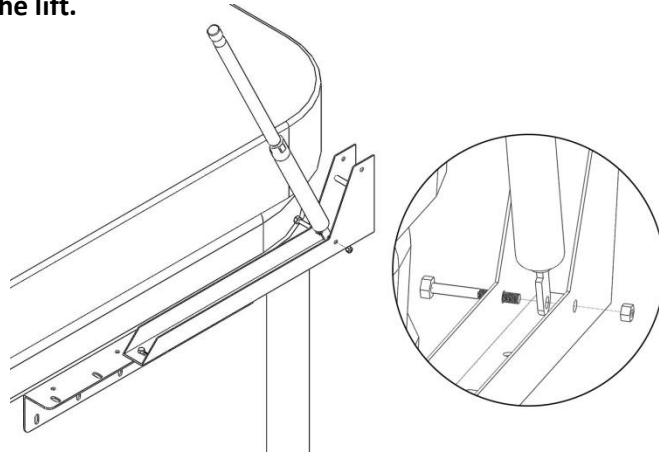

Figure 7
7. Fasten the bottom end of the Locking Gas Shock (cvLS) to the Channel Bracket (cvBB) using the Long Hex Bolt (cvC) and the Lock Nut (cvF) as shown in Fig 7. **Attach the Locking Gas Shock (cvLS) to the side of the spa where you will operate the lift.**